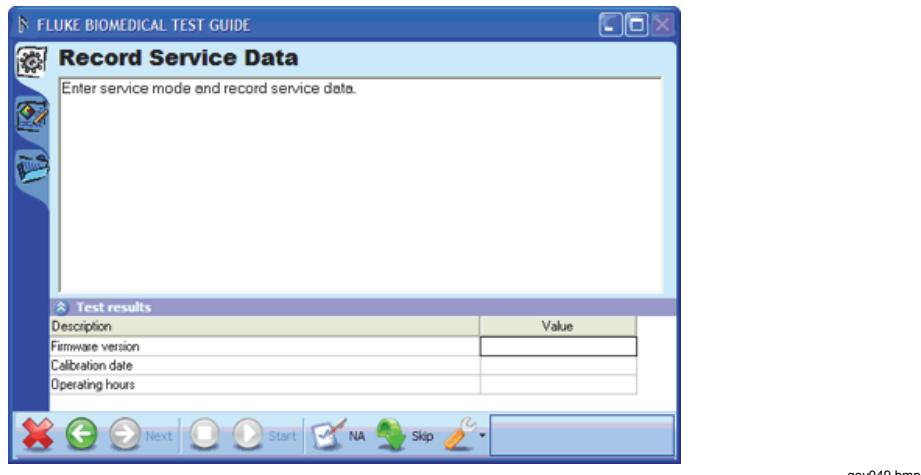

Figure 3-47. Preview of General List
13. Click the **Abort** button ( ) to return to the test template. When asked if you want to abort the test template, you must click the **Yes** button. The Test Guide for the numerical list will be displayed as shown in Figure 3-47.